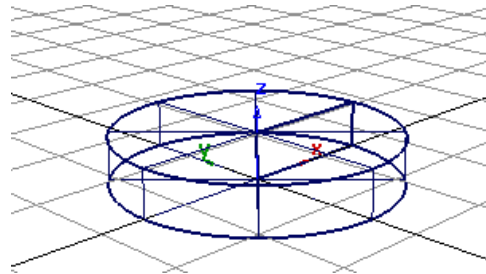

Figure 2-102 Base of the model after scaling
2. Enter **300, 300, 50** in the promptline and press ENTER; the base is scaled, as shown in Figure 2-102.